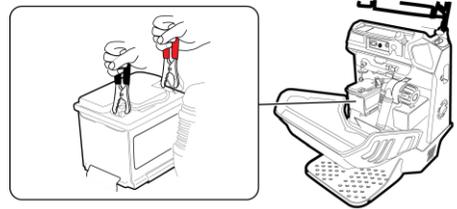

fig. 25 – battery recharge
- connect the (+) battery with the cable for charging Red (see sidebar, fig. 25).